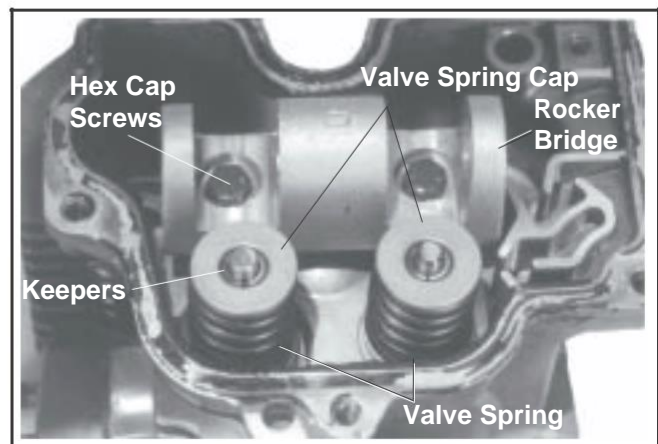

Figure 9-35. Removing Valves.
- b. Remove the two hex cap screws and the rocker bridge. See Figure 9-35.